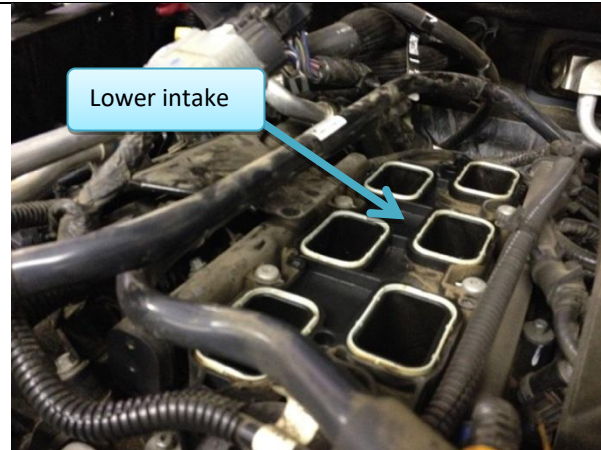

Figure 22: Lower intake.
14. Remove lower intake manifold (Figure 22)